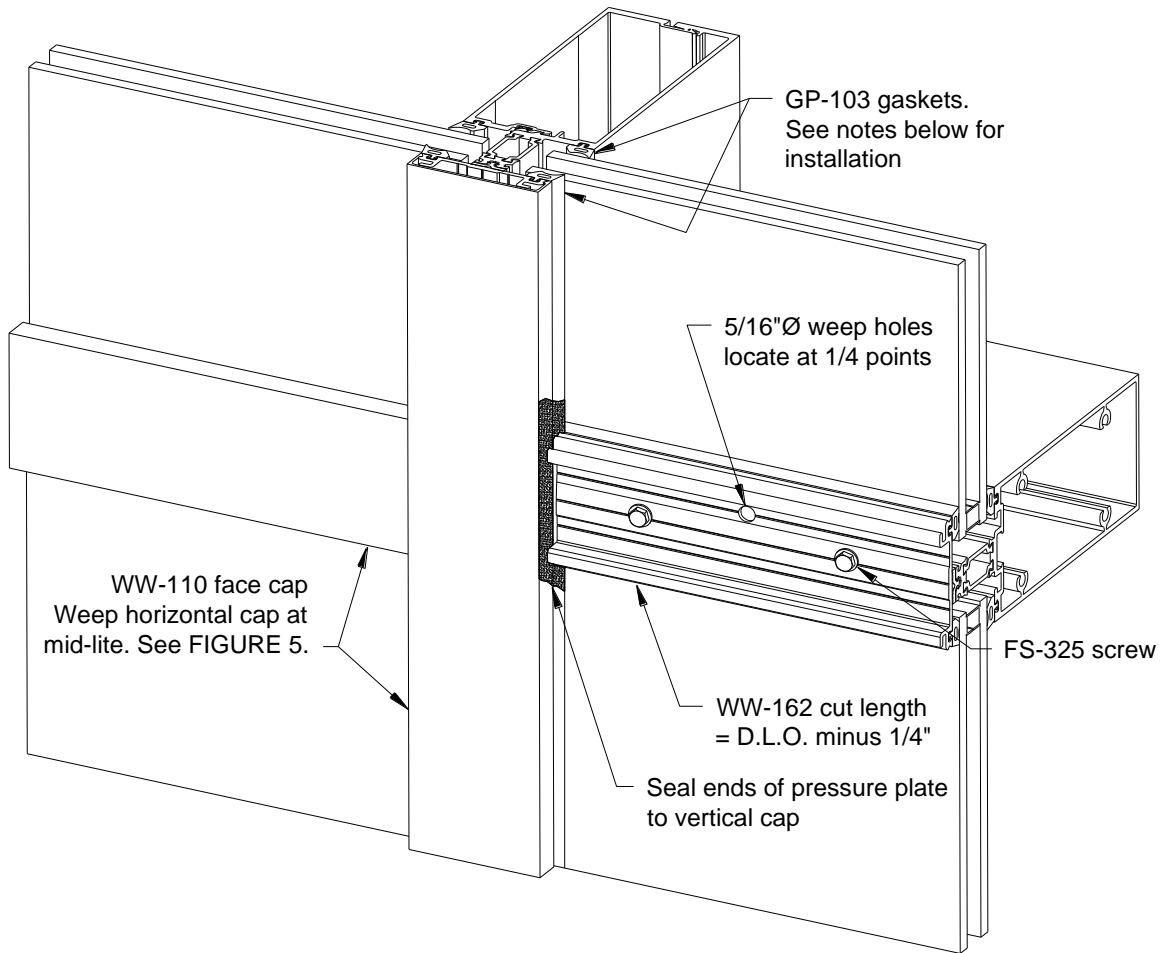

Figure 28: Sealing Horizontal Pressure Plates
- 10.10 After removing vertical temporary retainers, install vertical aluminum pressure plates with FS-325 screws, holding the pressure plates back 1/8" from the ends of the vertical mullion. **DO NOT OVERTORQUE, See FIGURE 28 (page 29).**
- 10.14 Seal horizontal pressure plates against the vertical face covers. Tool sealant into the joint. **See FIGURE 28 (page 29).**